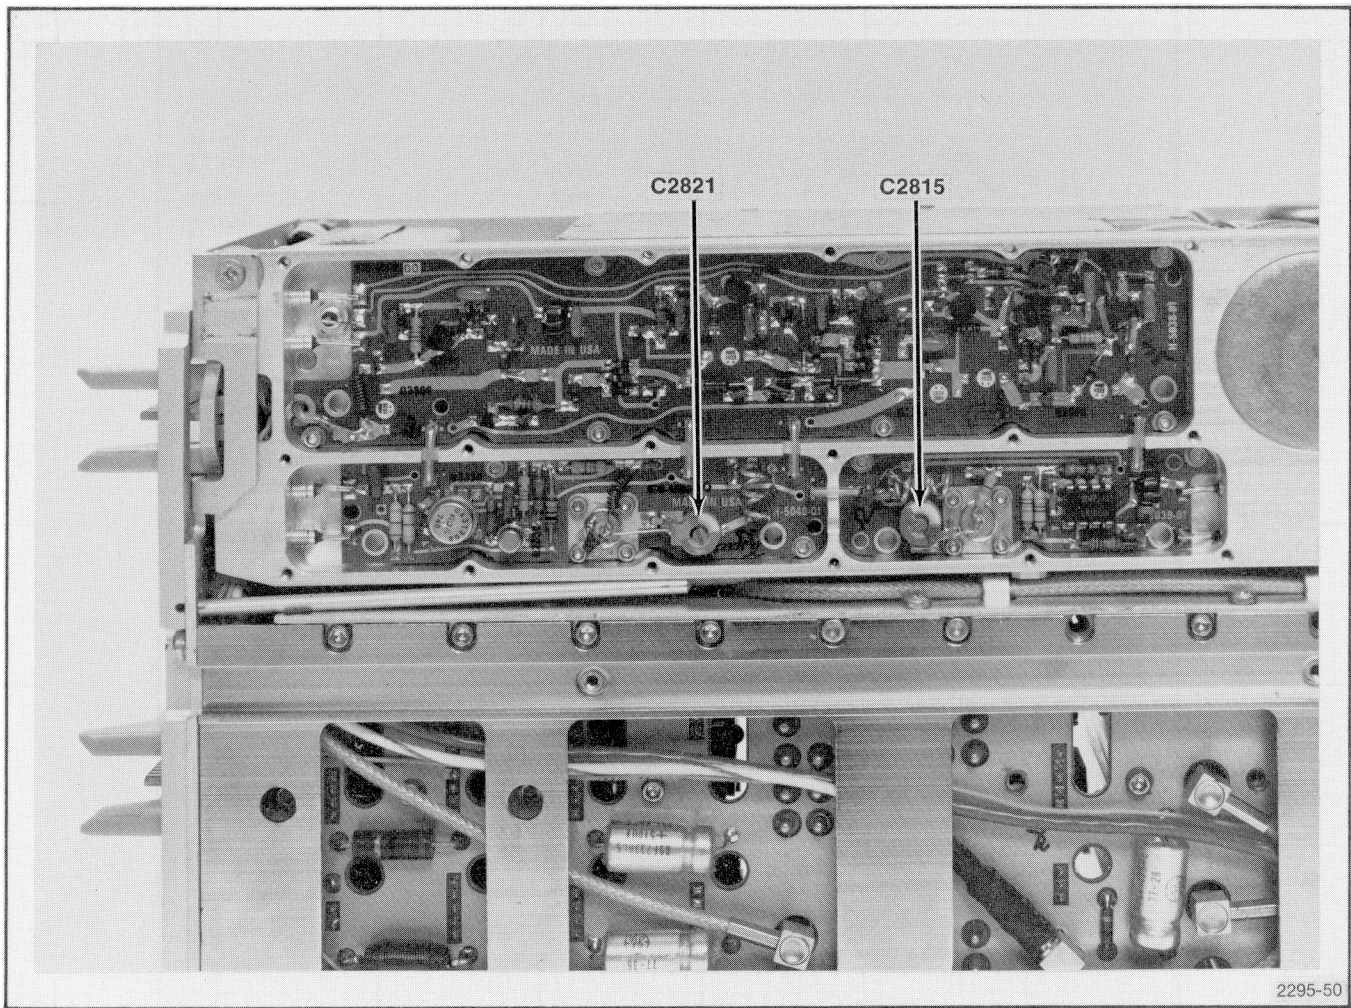

Fig. 4-42. Location of C2821 and C2815.
- f. Adjust Coaxial Resonator input tuning with C2821 (see Fig. 4-42) for maximum deflection.
- h. Adjust Waveguide REsonator input tuning with C2815 (Fig. 4-42) for maximum deflection.
m. If the return loss is less than 12 dB, adjust C2821 (Fig. 4-42) until the loss is at least 12 dB at 510 MHz.